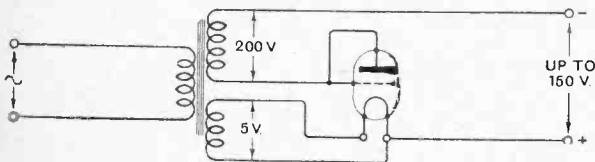

Fig. 1.—Simple form of half-wave rectifier
The most popular form of A.C. battery substitute in use to-day is that in which a two-electrode valve, often a standard receiving valve with the grid and plate pins bridged across, is used as a half-wave rectifier. By means of a transformer with primary connected to the supply mains, a suitable potential is obtained from a step-down secondary for heating the filament of this rectifying valve, while a tertiary winding giving a potential of about 150 to 250 volts is fed to the plate via the output circuit (Fig. 1). A smoothing equipment comprising iron core choke coils of high inductance and bridging condensers of high capacity are, of course, required, and, to be really effective, constitutes the most costly part of the apparatus. The periodicity of A.C. supply is usually 50, and never exceeds 100, cycles, and consequently pulses of unidirectional current are passed on to the smoothing circuit at this frequency. A high-tension potential varying from zero to maximum 50 times
Our rectifier will be connected as in Fig. 1, and the transformer will require four windings, one primary for connecting to the mains (P), two for the rectifier (S1, S2), and one for the filaments of the receiving valves (S3), and we will assume the main supply is at 240 volts 50 cycles. We have now to provide windings giving 5.5 volts for the filaments of the receiving valves, 5.5 volts for the rectifying valves, and 160 + 160 volts for the plate circuit of the rectifier.